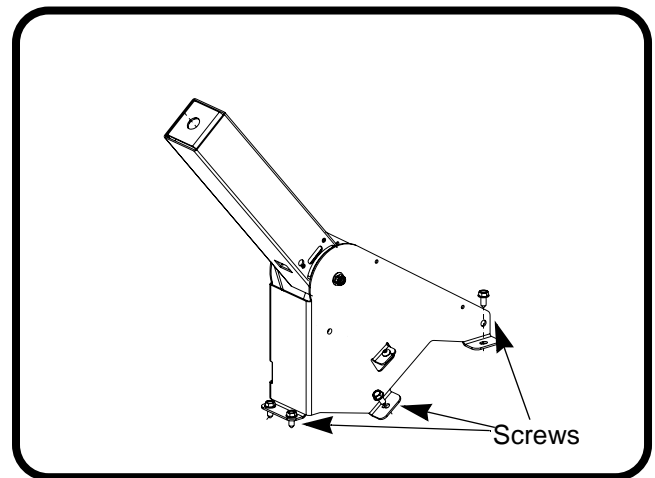

Figure 6.110
13. Install the six screws that hold the steering column to the frame. See Figure 6.110.